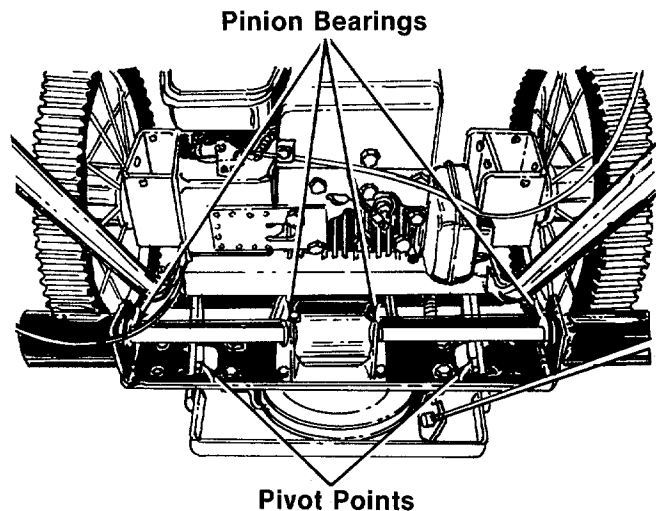

FIGURE 16.
1. Prior to initial operation, use a light oil to lubricate the shoulder bolts at the pivot points where the top drive frame assembly contacts the frame. Refer to figure 16 on page 10.
7. **Pinion Bearings**—Lubricate with a few drops of engine oil once a season. See figure 16.
10. Lubricate the shoulder bolts at the pivot points where the top drive frame assembly contacts the frame. See figure 16. Lubricate